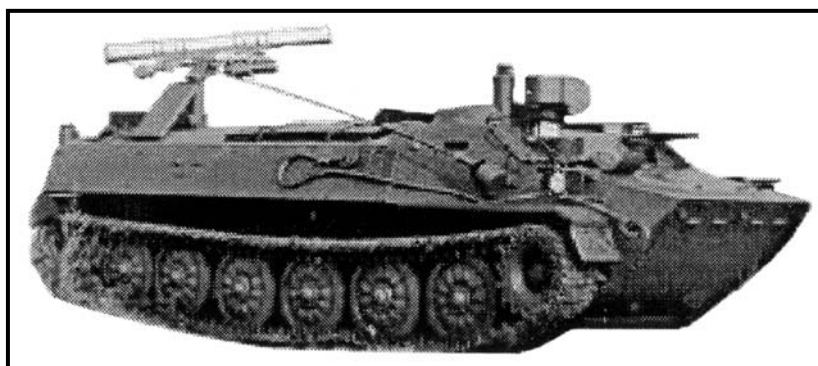

Figure H-13. Russian ATGM launcher vehicle, 9P149.
c. **Russian ATGM Launcher Vehicle, 9P149 (Figure H-13).**